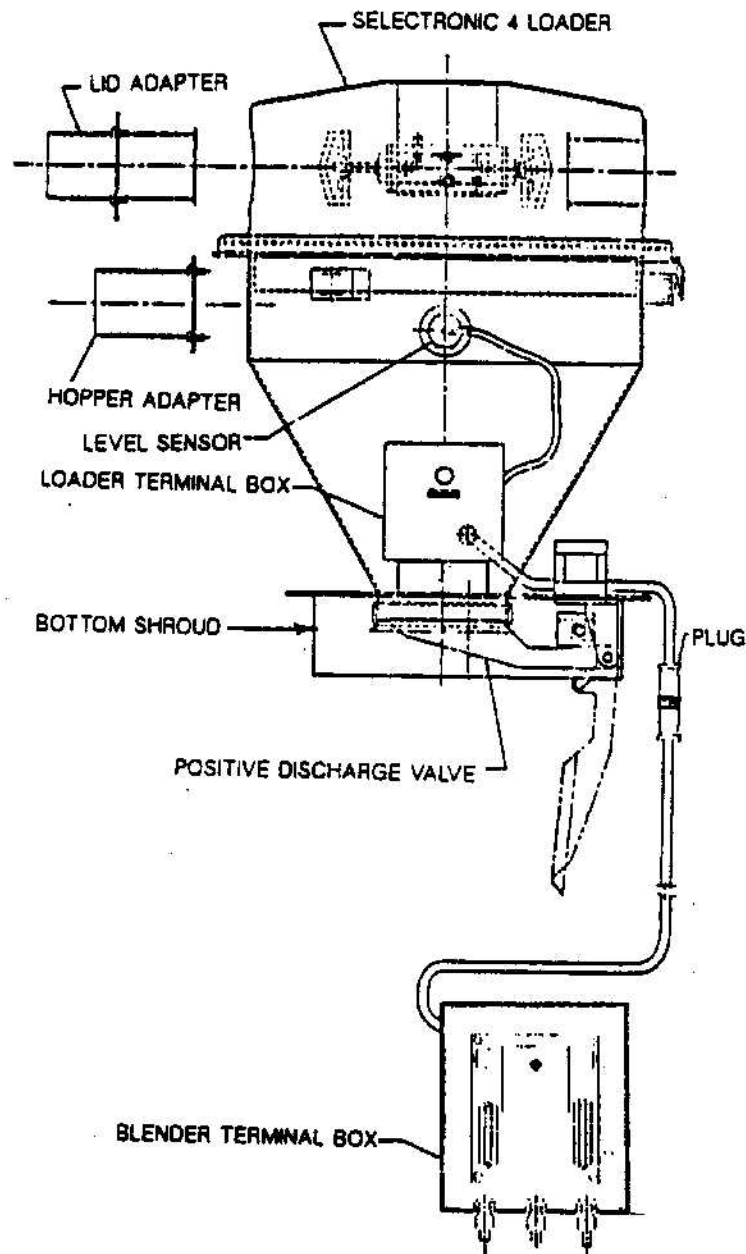

Figure 7 - LOADER
LOADER INSTALLATION See Figure 7
1. Check the sensor's mounting and position - The mixer sensor(s) should be positioned so that its top is flush with its cast mounting hole as shown in FIGURE 7.